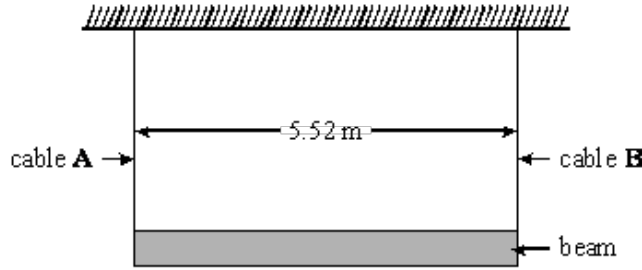

Figure 1
- Q1.** A uniform wooden beam of mass 35.0 kg and length 5.52 m is supported by two identical vertical steel cables **A** and **B** attached at either end, as shown in **Figure 1**.